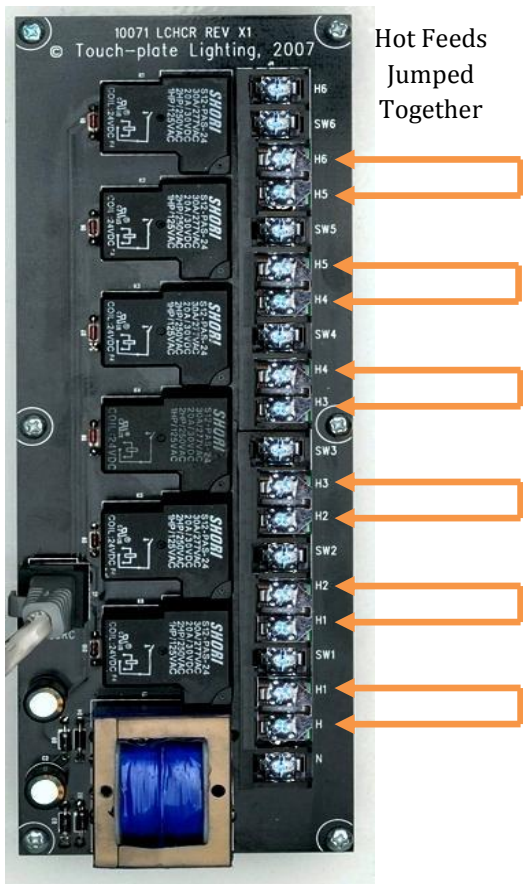

Figure 6.1
Figure 6.1 shows a 10071 Relay Board. The 10071 Relay Board has electronically held relays that are rated at 20AMPS. There are 6 relays and a transformer per board. The transformer performs the same functions as the TVR-1 / TPS-0120, which supplies power to the relay and the low voltage circuitry. The 10071 Relay Board uses 20-AMP electrically held relays. The Relay Board will come from the factory with ‘jumpers’. ‘Jumpers’ allow all six (6) relays to share one (1) hot feed. If more than one (1) hot feed is desired or needed, the jumper(s) can be removed so the new hot feed can be wired.